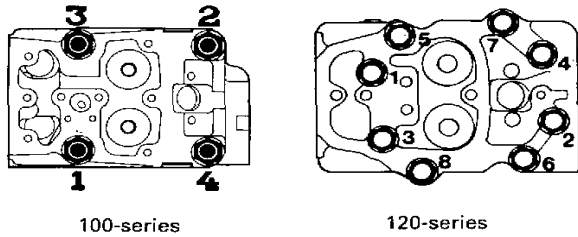

Fig. 41. Tightening sequence for cylinder head bolts
6. 100-series: Tighten the cylinder head bolts as shown in fig. 41. Tighten in stages to 20 Nm (2 kpm = 15 lbf.ft.), 100 Nm (10 kpm = 74 lbf.ft.), 200 Nm (20 kpm = 148 lbf.ft.), 320 Nm (32 kpm = 236 lbf.ft.). Re-check all the bolts for correct tightness and then angle-tighten according to point 8.
7. 120-series: Tighten the cylinder head bolts as shown in fig. 41. Tighten in stages to 50 Nm (5 kpm = 37 lbf.ft.), 150 Nm (15 kpm = 111 lbf.ft.), 190 Nm (19 kpm = 140 lbf.ft.). Angle-tighten according to point 8.